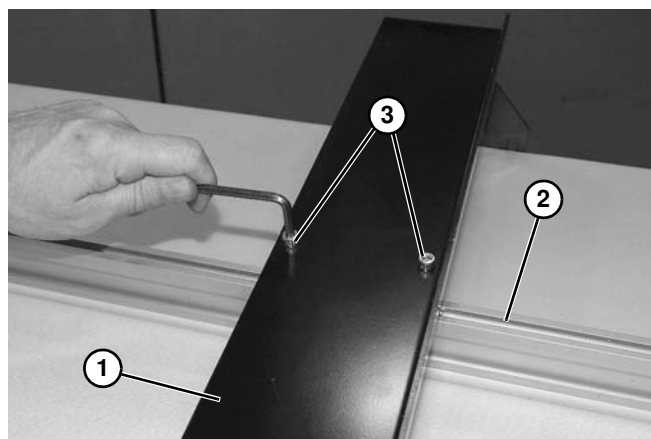

Figure 61
5. Position cross support (**Figure 61, item 1**) on return support (**Figure 61, item 2**), and secure with two screws (**Figure 61, item 3**). Do not fully tighten at this time.